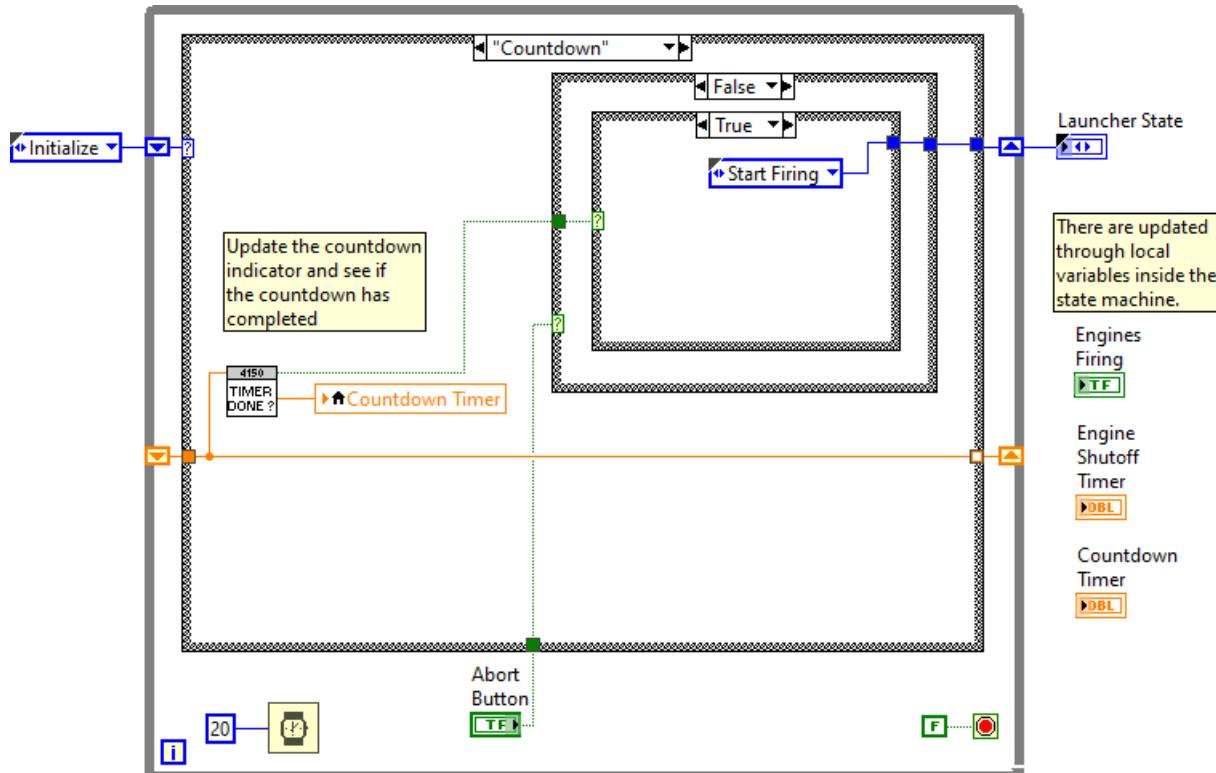

FIGURE 3.19 Update countdown indicator and check for countdown complete
24. Duplicate this case. Remove the TIMER START function. Wire the timer end shift register all the way across the diagram. Add a TIMER DONE function and wire as shown in Fig. 3.19. This checks to see if the Countdown is complete. The inner Case Structure tests for countdown complete and sets the Start Firing state when *true*. Remember to wire output states for all the variations of the case structures. This should complete this state.